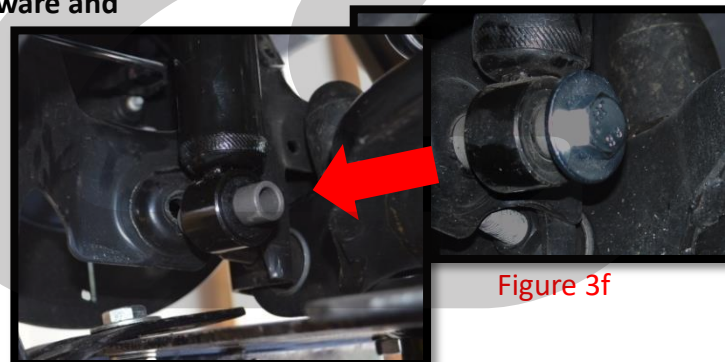

Figure 3f
- h) For Gen2 Only: Using the supplied 19mm bolt and washer, attach the bottom of the shock to the spindle and torque to 50ft-lbs. (Figure 3f). Gen1 Only: Reuse the stock hardware and torque to 50ft-lbs.